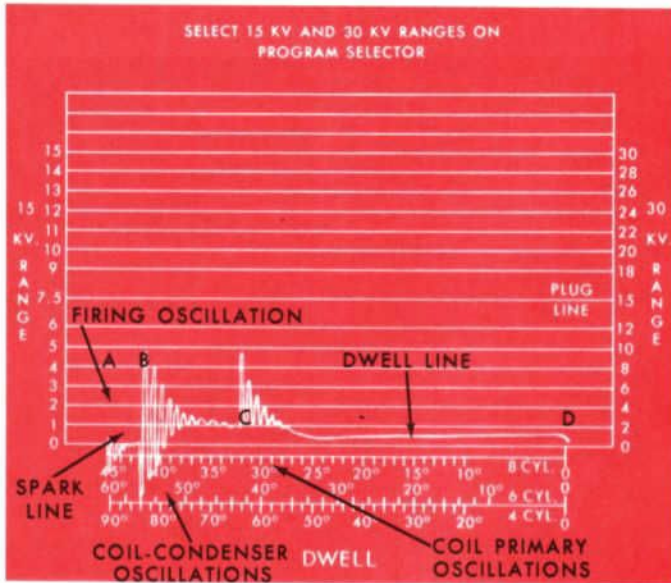

Figure 20—Normal Secondary Superimposed Pattern
3. Adjust the parade and expand controls, if necessary, so that the pattern coincides with the degree scale (Figure 20).
Anytime there is excess resistance in the secondary circuit, the firing oscillations and spark line slope downward from “A” to “B”. Note the level line in the normal pattern of Figure 20. Excessive resistance can be caused by the coil wire, the distributor cap or the rotor. If the normal pattern and the high resistance both show, that is, if there are multiple spark lines, the trouble is the distributor cap or an individual plug circuit. This is checked on the 15-KV button.